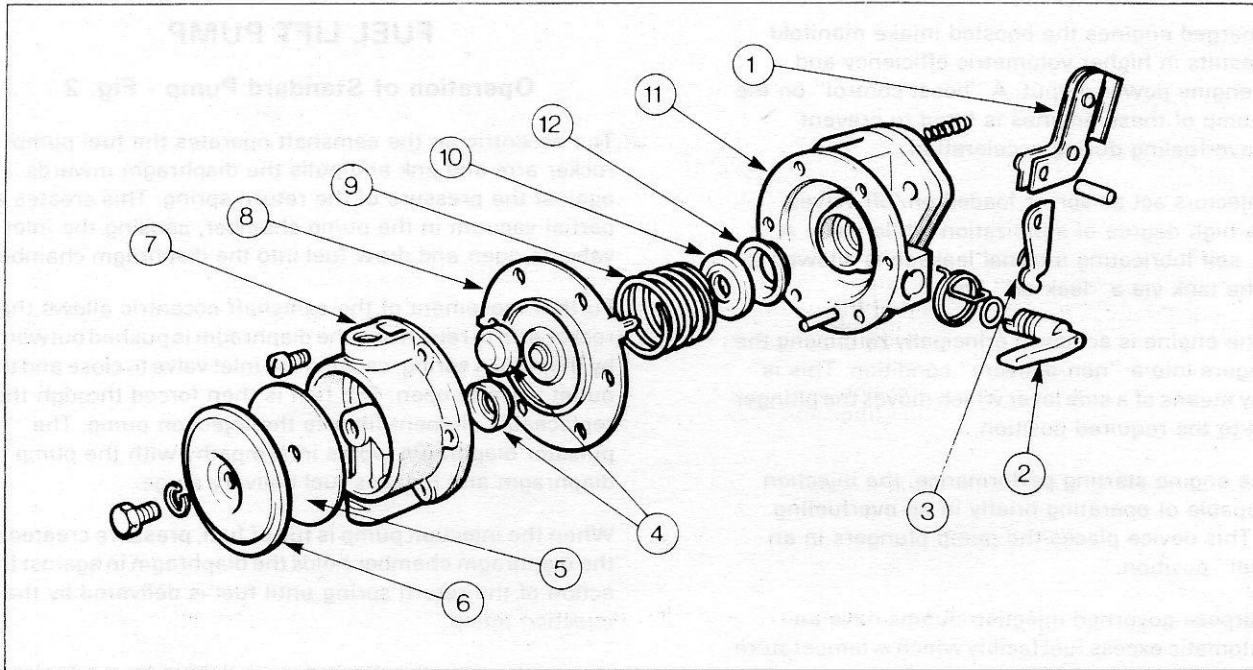

Fig. 2 - Exploded View of Standard Pump
### Operation of Standard Pump - Fig. 2
**Servicing the Standard Fuel Lift Pump - Fig. 2**